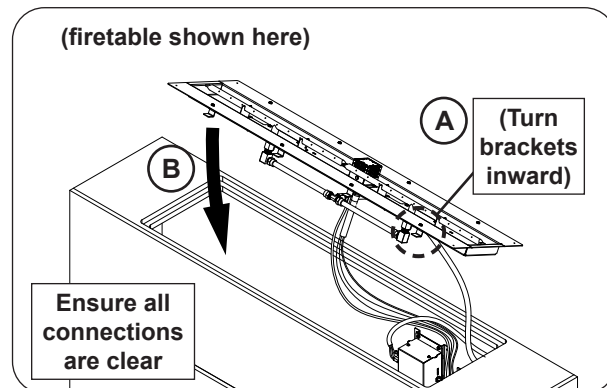

Fig. 31-2 Insert burner assembly
1. Ensure that the 8 burner brackets are turned inward, then insert the burner assembly (see Fig. 31-2, A-B).